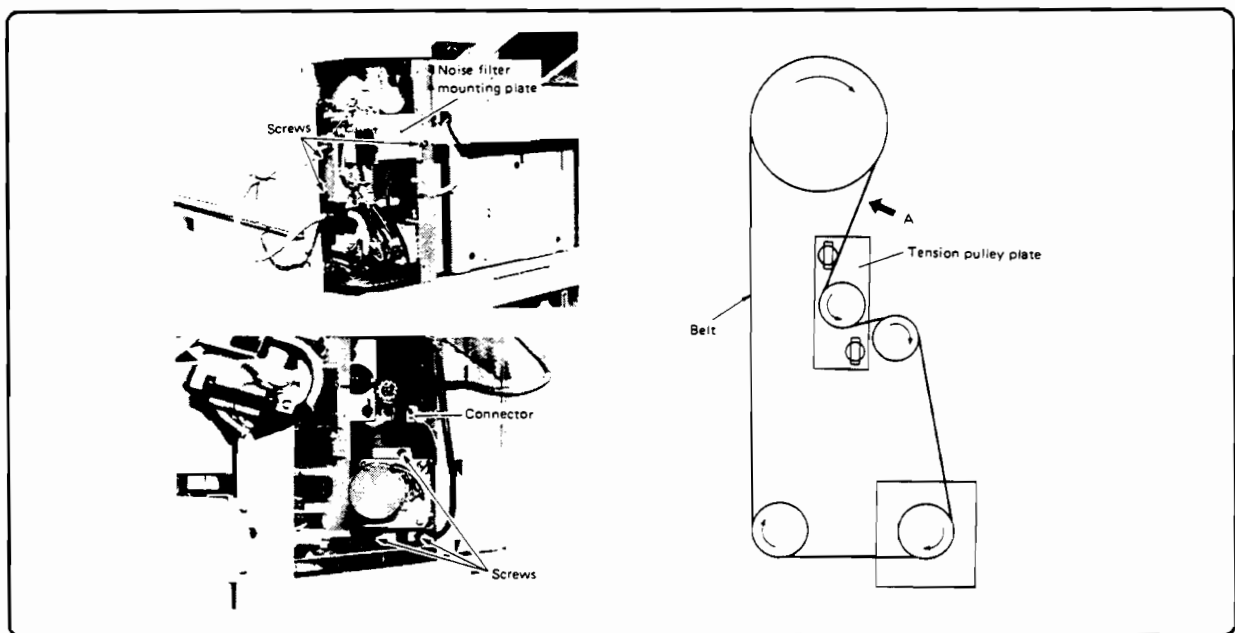

Figure 6-128. Stacker Drive Motor Removal
4. Remove the noise filter mounting plate (three screws) (Figure 6-128).
6. Remove the three motor mounting screws and connector; then remove the stacker drive motor together with its mounting plate (Figure 6-128).
Adjustments: When reinstalling the stacker drive motor, adjust the tension of the stacker feed roller drive belt. To do this, tighten the tension pulley plate to the position where the belt deflects $8 \pm 2\text{mm}$ when the belt is pressed with a force of 300 grams with a spring scale at the point "A" shown in Figure 6-128.